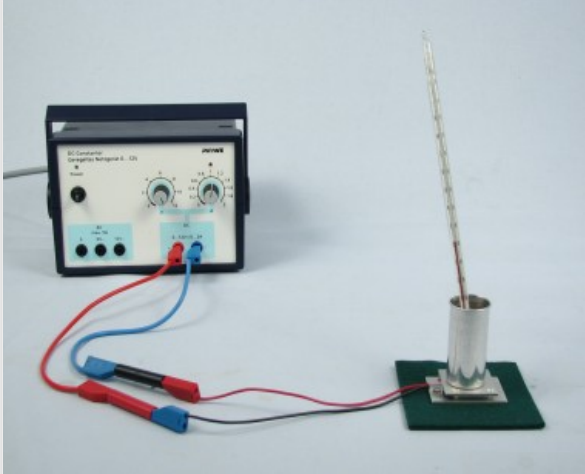

Figure 7
6. Touch the lower plate of the thermogenerator (Fig. 7). How does the temperature feel?
Place the thermogenerator on the felt plate (Fig. 7).